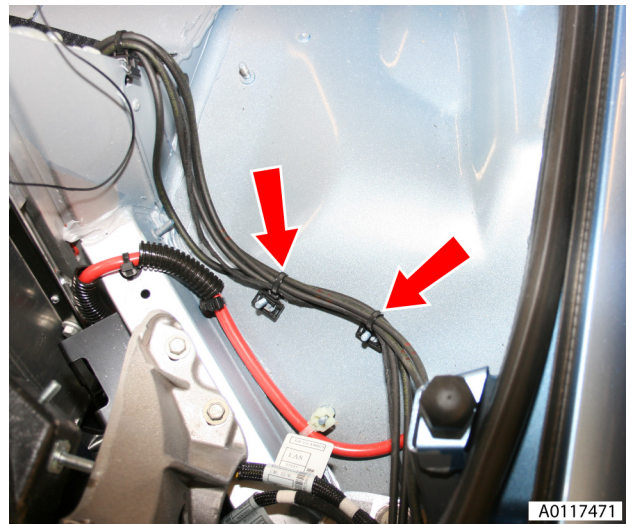

Fig. 12
27. Remove harness/pipe retaining clips (x2) (LH) (see Fig. 12).